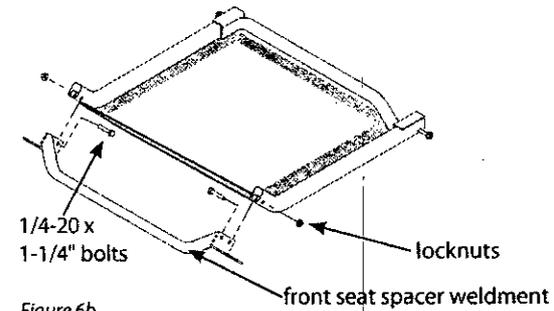
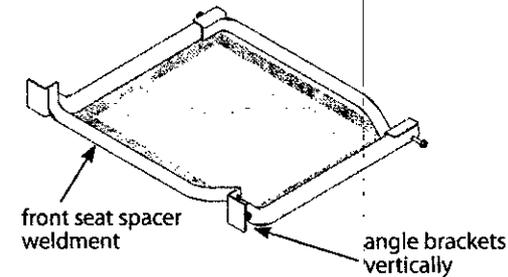
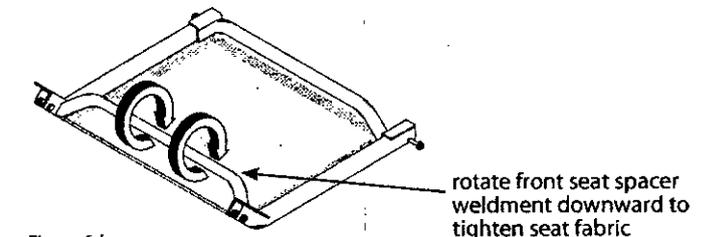

Figure 6b
Figure 6c
Figure 6d
- b. Spread the front (bent end) of fabric rail mounts apart. With the front seat spacer weldment (410112) orientated so the angle brackets are directly up and down, insert (2) 1/4-20 x 1-1/4" bolts and temporarily attach locknuts **SEE FIGURE 6b and 6c.** With the front seat spacer weldment (410112) orientated vertically (**SEE FIGURE 6c**), continue by rotating the front seat spacer downward into locking position so the angle bracket on each side is fully cradling the fabric rail mounts. **SEE FIGURE 6d.** Be sure the front seat spacer locks into place. This rotating action is a tight fit by design in order to apply the correct amount of tension on the mesh seat. The use of a rubber mallet is recommended to force the front seat spacer into position. **You must now securely tighten the (2) 1/4-20 x 1-1/4" bolts and locknuts.**